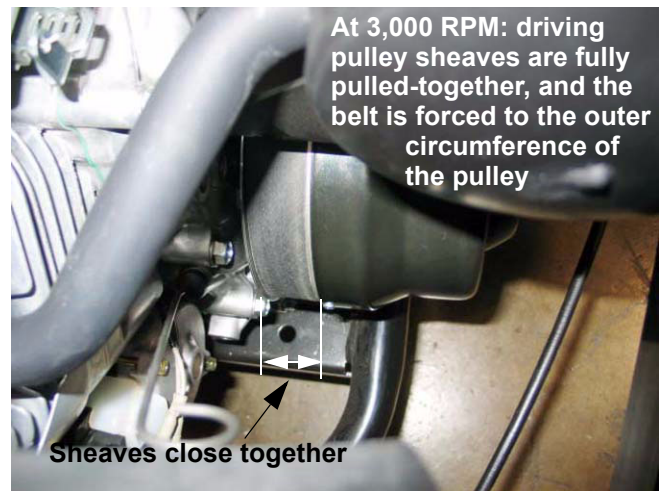

Figure 4.15
4.15. As the engine speed increases from idle speed to roughly 3,000 RPM, the sheaves of the driving (engine) pulley will close-down on the belt. See Figure 4.15.